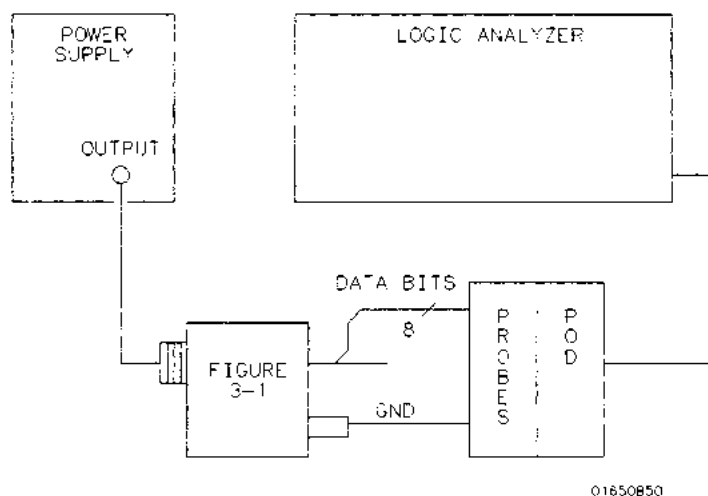

Figure 3-36. Threshold Accuracy Test Setup
1. Connect the test equipment as in figure 3-36.